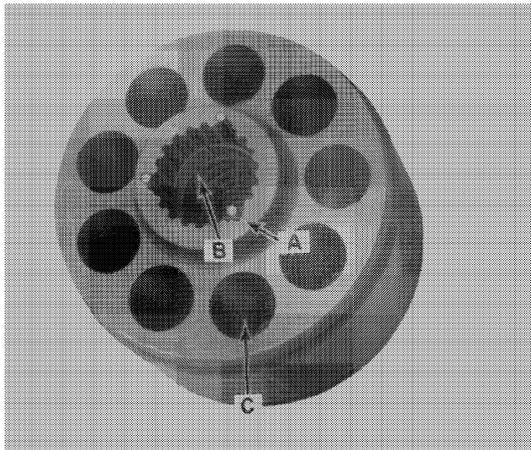

FIGURE 5-12
- a. Cylinders, C, Figure 5-12, are worn or scored so the pistons do not move freely.
- d. The three block loading pins, A, Figure 5-12, are spring loaded. They are held in place by the pin keeper (split bushing), B.